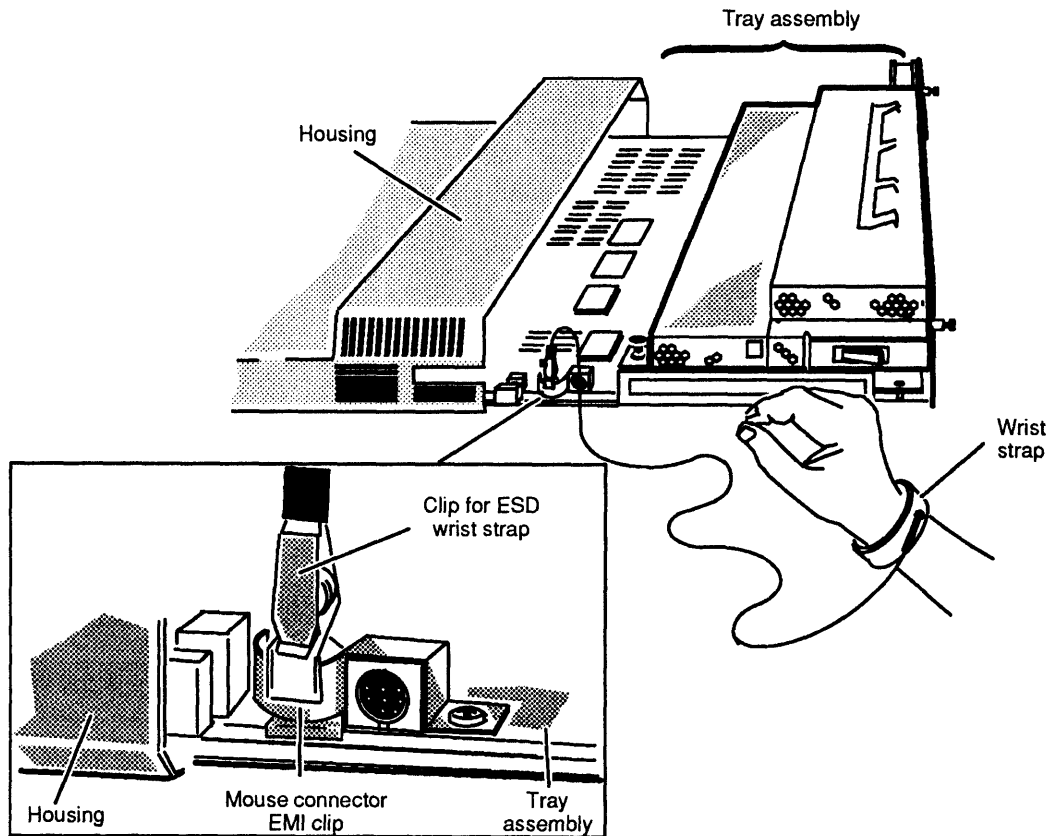

Figure 4-7 Attaching the ESD Wrist Strap and Clip
- Attach the clip of the ESD strap to the electromagnetic interference (EMI) clip on the mouse connector, as shown in Figure 4-7.